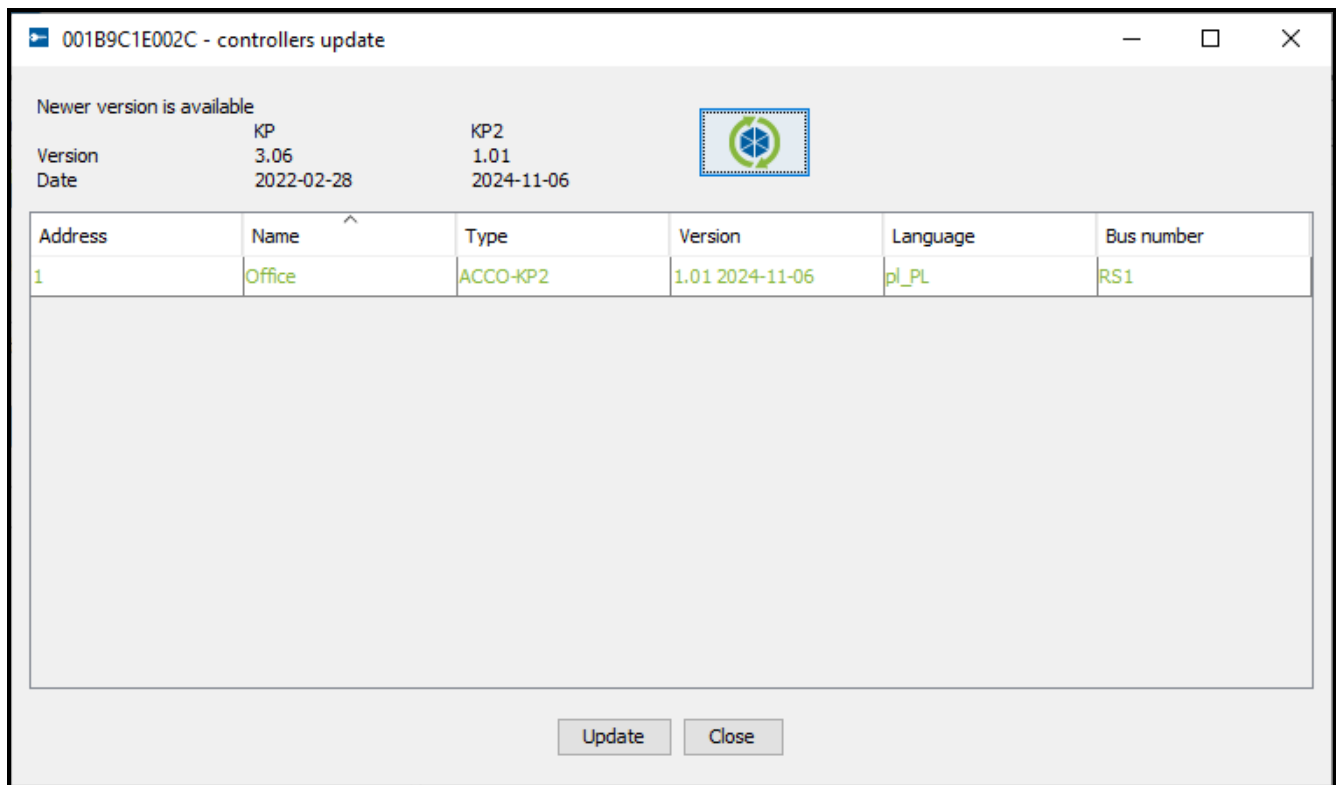

Fig. 28. Controller firmware update window.
3. A window will be displayed with the available firmware version and a table with controller data (see Fig. 28).